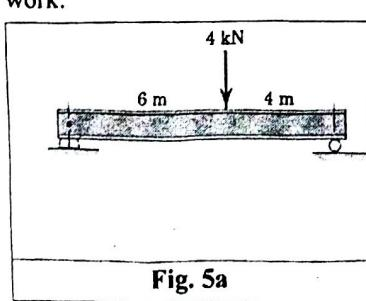
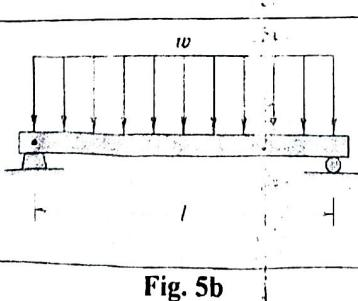

Fig. 5a
Fig. 5b
- ✓ 5. (a) Determine the shear force and bending moment distributions produced in the simple beam by the 4 k-N concentrated load as shown in Fig. 5a. (b) Determine the shear force and bending moment for the uniformly loaded beam and find the maximum bending moment  $M_{max}$  as shown in Fig. 5b, where  $w=2\text{N/m}$  and  $l=5\text{m}$ . CO4 BL3 5+7